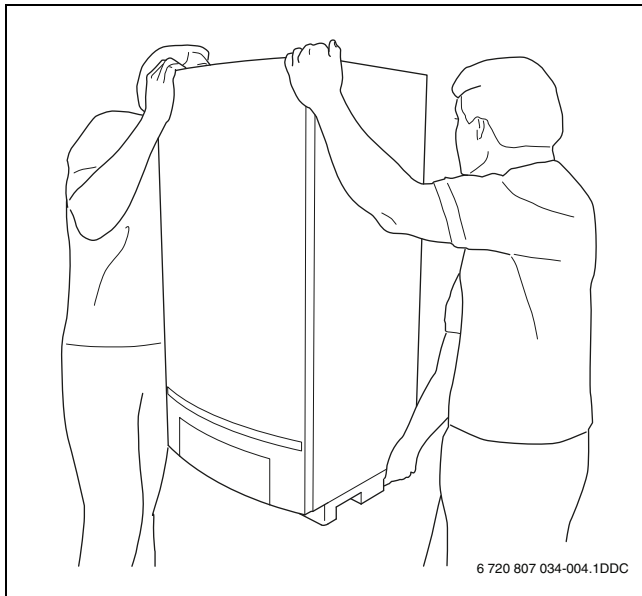

Fig. 33 Lifting and carrying the boiler correctly
- ▶ Only hold the boiler at the sides and not at the control panel or flue connection (→ figure 33).